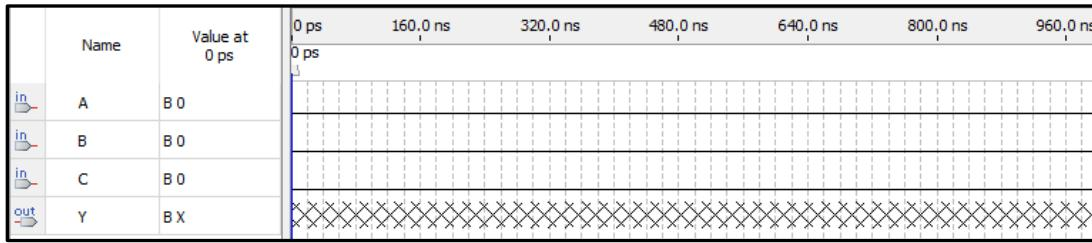

Figure 7: VWF with inputs and outputs
2. You should now see the inputs and outputs in the vector waveform file window. Save this file. The window should look like Figure 7.